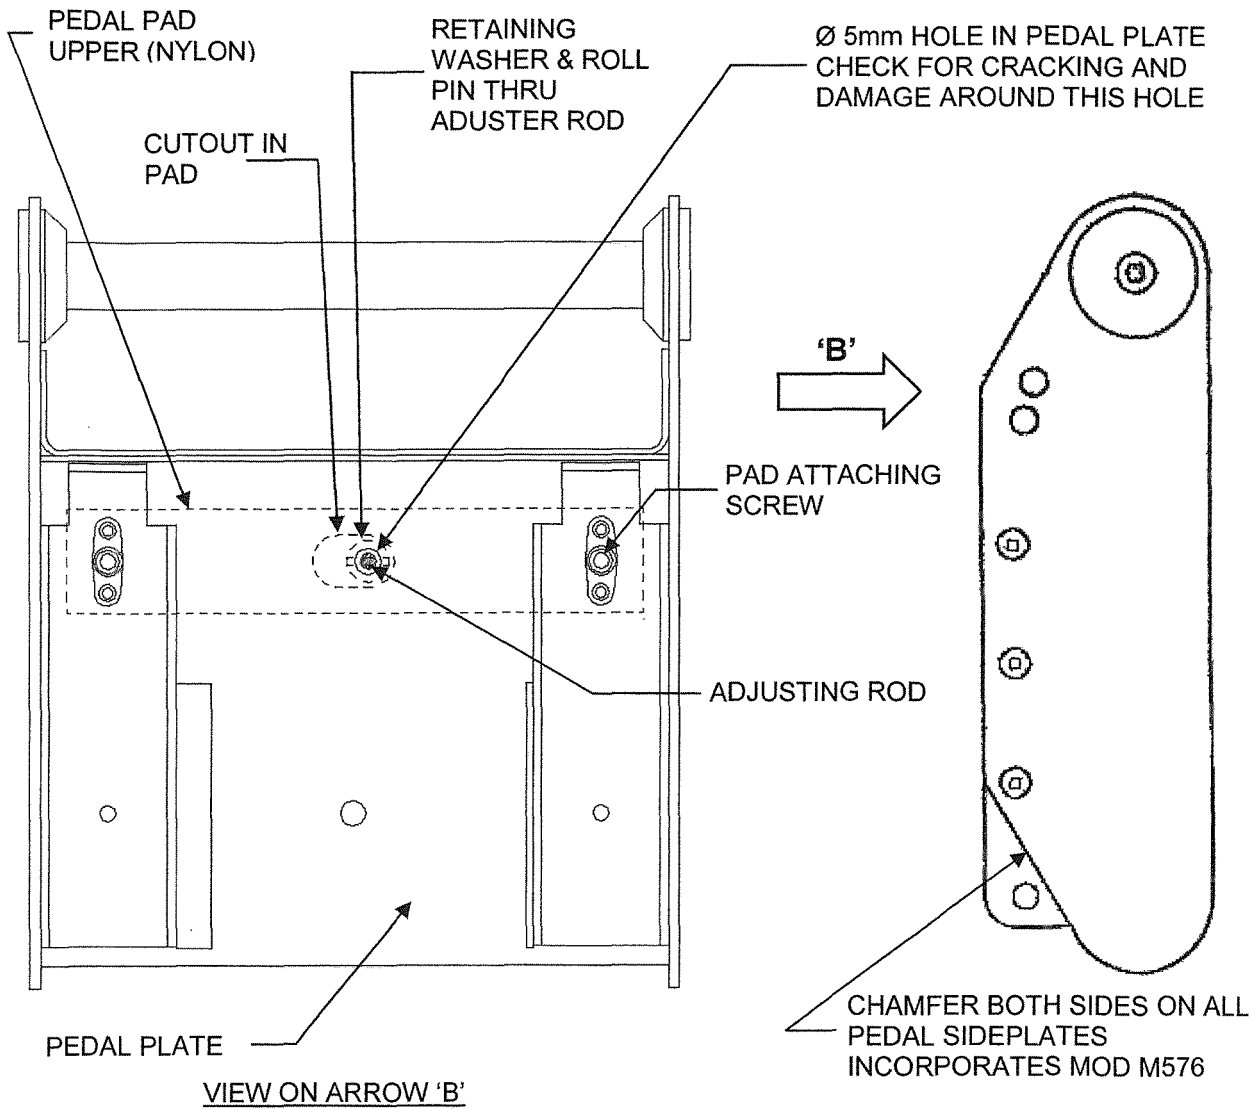

FIGURE 10
22. Ensure Mandatory Mod M576 has been invoked; AD 013-05-94 refers. Pedal side plate should be as Figure 10.
23. Check structural integrity of pedal pad assembly especially around adjuster pushrod hole pedal plate, Figure 10 View on Arrow 'B' refers, if plate is cracked or damaged the pedal pad is to be repaired. Ensure riveting is secure, if rivets are loose then they have to be rectified. Contact SACL for new pedal pad assembly, materials and any applicable repair scheme.